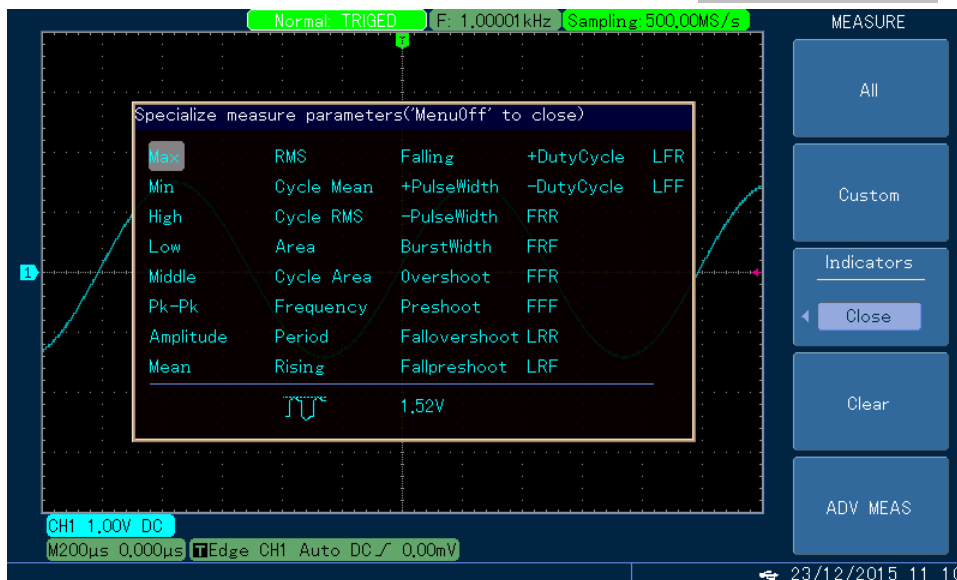
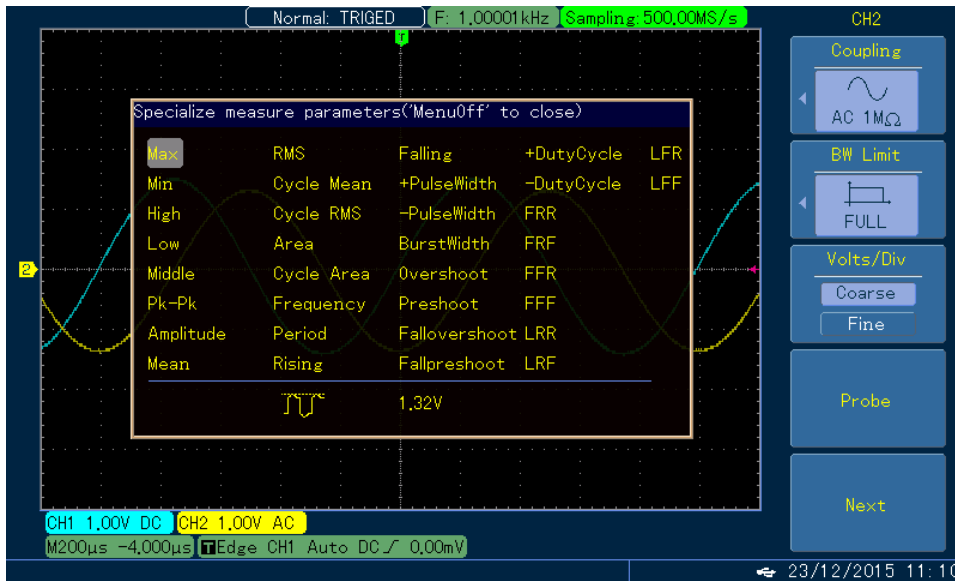

Fig. 2-35 Measuring CH1 Using Customized Parameter
Fig. 2-36 Measuring CH2 Using Customized Parameter
4. Customized parameters allow the measurement of different channels at the same time. The method is that if CH1 is to be measured, press CH1 for once, then the color of measurement shown in the measurement dialog box turns to blue and all the measurement parameters selected are in blue fonts, see Fig. 2-35. Likewise, press CH2 if the customized parameters are intended for the measurement of CH2, See Fig. 2-36.